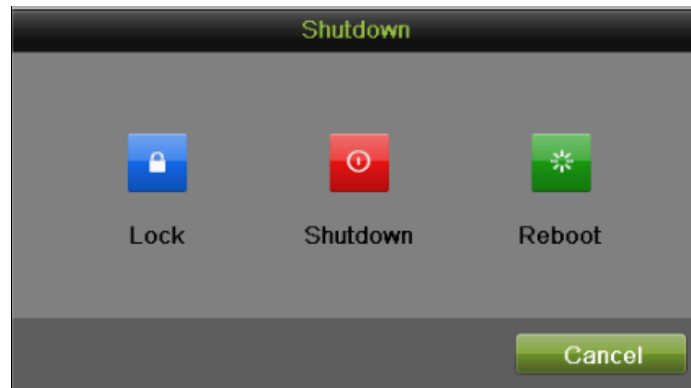

Figure 44 Shutdown Menu
1. Shutdown your DVR by going to Menu > Maintenance, click  in the lower left corner to pop-up the Shutdown menu, as shown in **Figure 44**.
While in the Shutdown menu (**Figure 44**), you may also reboot your DVR by clicking Reboot.